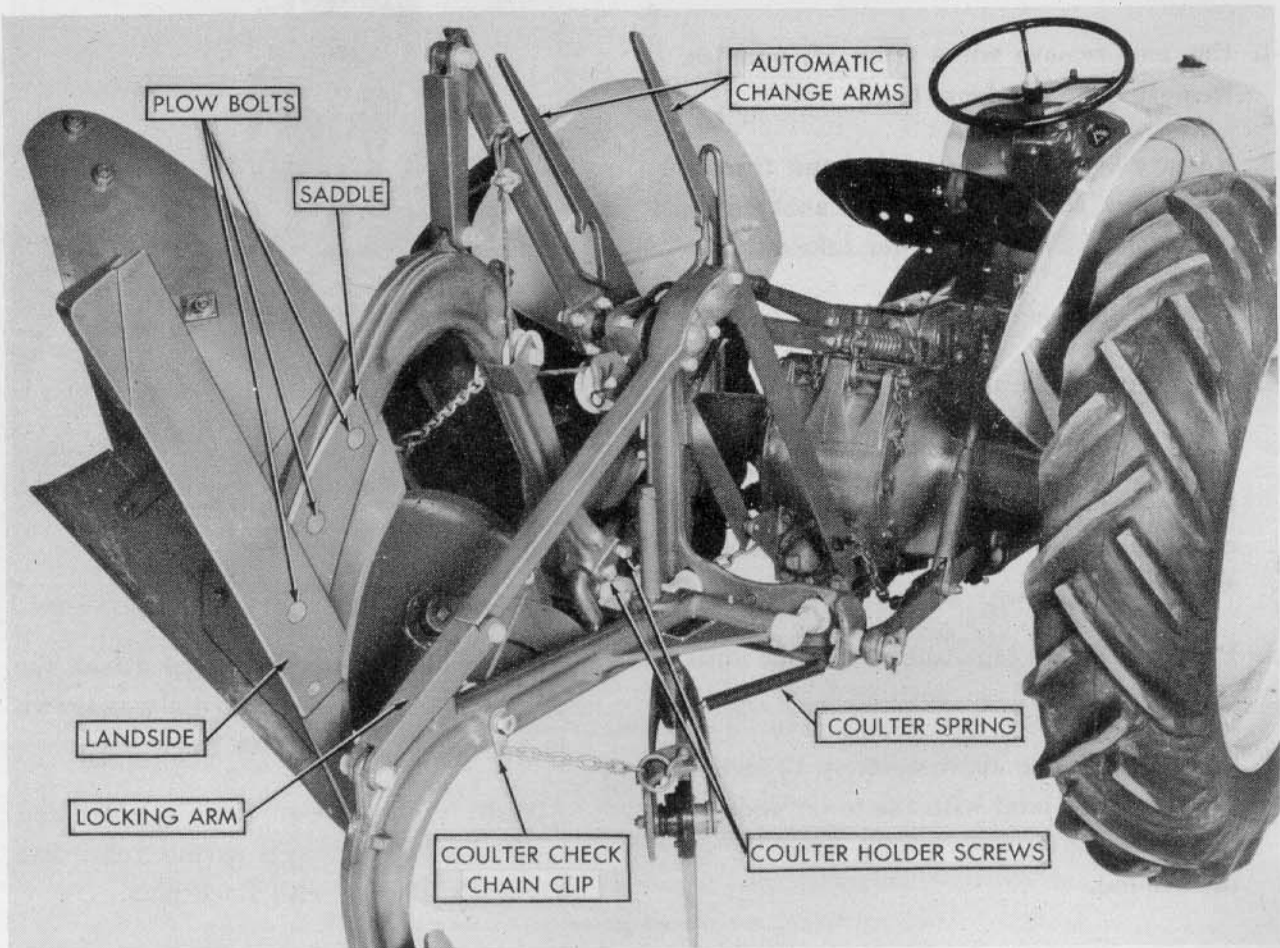

Figure 7
10. Remove the three plow bolts from the frog and landside of both right and left hand plow bottoms. See Figure 7.
14. Attach coulters to each plow beam as follows: Loosen the two coulters holder screws in each beam. See Figure 7. Insert coulters shank in coulters holder and tighten the screws.
15. Bolt coulters check chain clip to each plow beam as shown in Figure 7.
16. Attach both coulters springs as shown in Figure 7.
20. Push down on moldboard of right hand plow bottom until right hand locking arm is locked in position as shown in Figure 7.
21. Lower plow to ground and install automatic changing arms as shown in Figure 7.
CAUTION: Make sure automatic changing arms are in position as shown in Figure 7, with hook opening facing downward.
After starting to plow, further adjustments of the coulters may be necessary depending upon soil conditions. If the coulters are set too low, they will cause the plow to ride on the coulters hubs. Setting the coulters too far to the right or left of the landside will result in uneven furrow walls and increase draft. Loosen the two set screws, shown in Figure 7, to make necessary coulters adjustments.